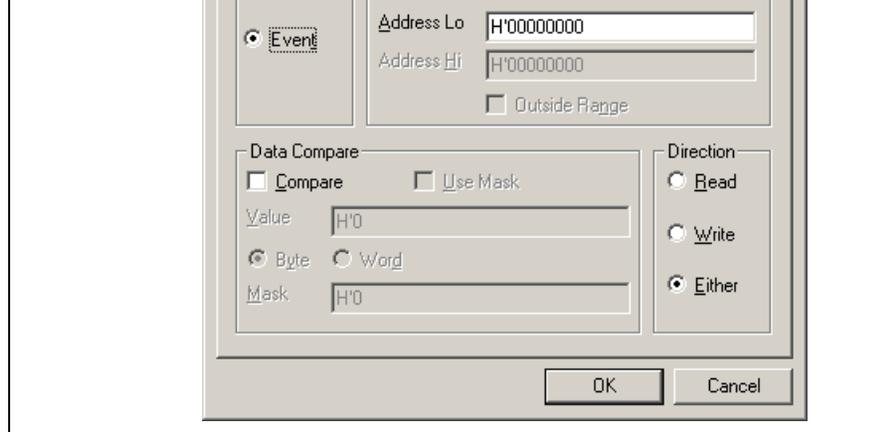

Figure 6.42 [Breakpoint/Event Properties] Dialog Box
- (2) Register the address range for trace acquisition as an event condition. Click the [Add...] button in the [Events] group box on the [General] page to display the [Breakpoint/Event Properties] dialog box (see Figure 6.42, [Breakpoint/Event Properties] dialog box).
- (3) Click the [Range] radio button in the [Address] group box on the [General] page of the [Breakpoint/Event Properties] dialog box. Use the [Locals] window to refer to the address on the line where variable `a` is defined within the `tutorial` function, is allocated (`H'00FFEF80` in this example) and enter this address in the [Address Lo] edit box. Then enter an address, which is `H'27` added to that entered in the [Address Lo] edit box (`H'00FFEFA7` in this example), in the [Address Hi] edit box. This procedure sets the memory range for variable `a` of the `tutorial` function.
- (4) Click the [Write] radio button in the [Direction] group box to set a write cycle for the specified range. This completes the setting of a memory range. Click the [OK] button to close the [Breakpoint/Event Properties] dialog box.